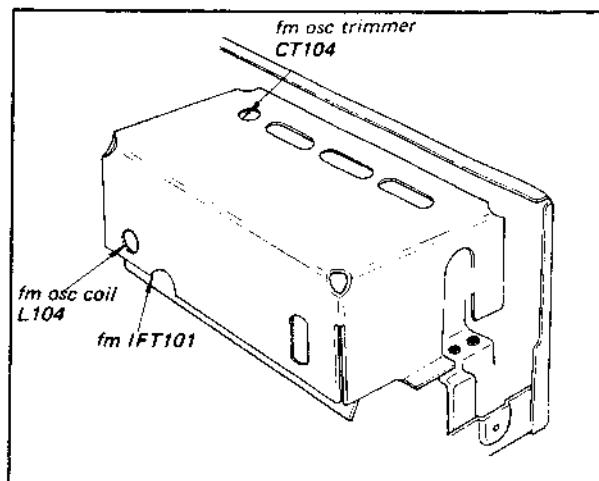

Fig. 3-3. Adjustment parts location
3. Turn the core of fm i-f transformer IFT101 (See Fig. 3-3) and the bottom core (primary side) of discriminator transformer T201 (See Fig. 3-10) to obtain maximum output with the alignment tool.
2. Check the dial scale for a calibration accuracy of  $\pm 100$  kHz from the carrier frequency of the station. If the dial-accuracy deviation exceeds this limit, adjust the local-oscillator coil L104 (See Fig. 3-3) slightly until optimum dial calibration is obtained.
3. Tune the receiver to the highest-frequency station in your locality. If the dial-calibration error is excessive, adjust local-oscillator trimmer CT104 (See Fig. 3-3) to obtain maximum calibration accuracy.